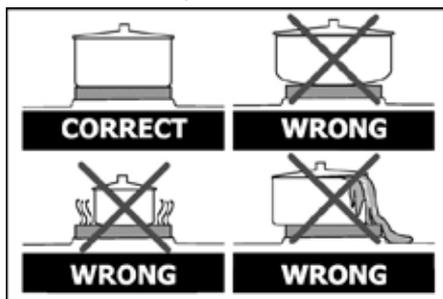

Figure 11
- ❖ Ensure good contact between the hotplate and pan base. The base of the pan should be smooth and solid. This ensures optimum use of the heat radiation. **(See figure 11)**